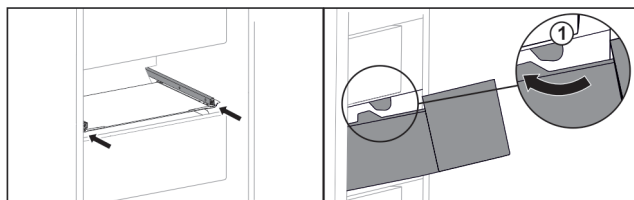

*Fig. 121*
- ▶ Lift drawer from below at the back. *Fig. 121 (1)*
- ▶ Remove drawer to the front. *Fig. 121 (2)*